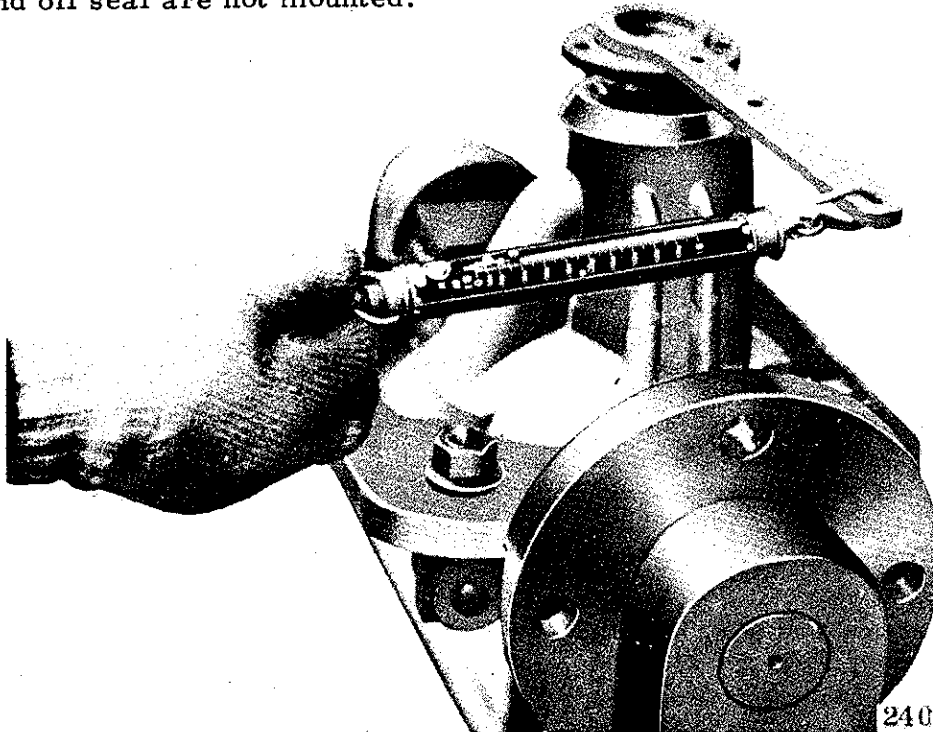

Fig. 11
- (5) The formal adjustment of the drive pinion, bearing and pre-load. After the fixing position of drive pinion is decided as mentioned in the previous paragraph, take off the pinion nut & companion flange to mount again the drive pinion bearing spacer (distance piece) and nut. Tighten up the nut as Fig.11 by using torque wrench at the regular torque of 100-120ft./per lbs. The preload supportedly the bearing in this case is different according to the condition of the bearing adjusting shim inserted. The more of the shim inserted, much the play of pinion to the direction of axle is increased. The less of the shim inserted, the more the bearing tightened by the previously mentioned nuts and cause it to be burned if left and turned as it is. Therefore, for readjustment of the bearing preload in this case, it must be adjusted by increasing or decreasing the number of four kinds of *